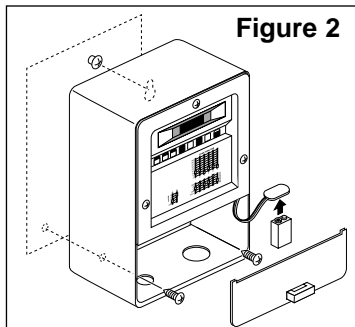

Figure 2
2. Hang the controller on the mounting screw. Make sure the screw head is secured at the top of the keyhole slot. See **Figure 2**.
2. Connect a 9 volt alkaline battery (not supplied) to the battery connector found inside the wiring compartment. Installing a battery enables the controller to retain watering programs stored in the controller's memory during power failures. See **Figure 2** on page 7.